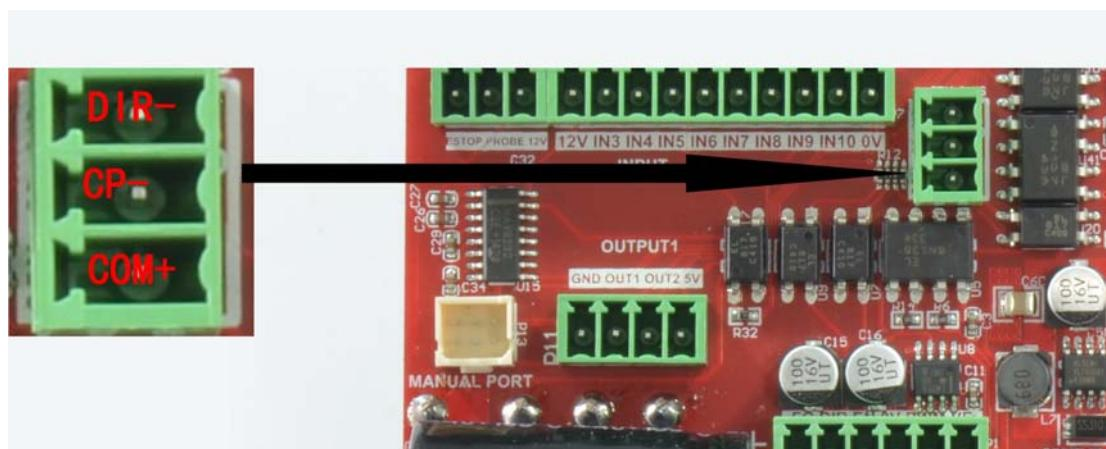

Figure2-7. B axis' definition
- O)B axis control signal port. This port is B axis control signal port. It can connect to B axis stepper motor driver. Definition see as Figure 2-7. Common anode. COM+ connect to STEP+ and DIR+ of driver, CP- connect to STEP- of driver, DIR- connect to DIR- of driver.